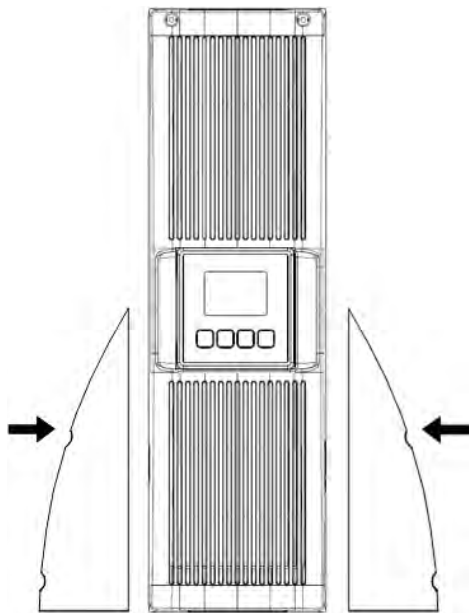

Figure 5: Support positioning
- 3. Screw the supports to the sides of the unit as shown in Figure 5.